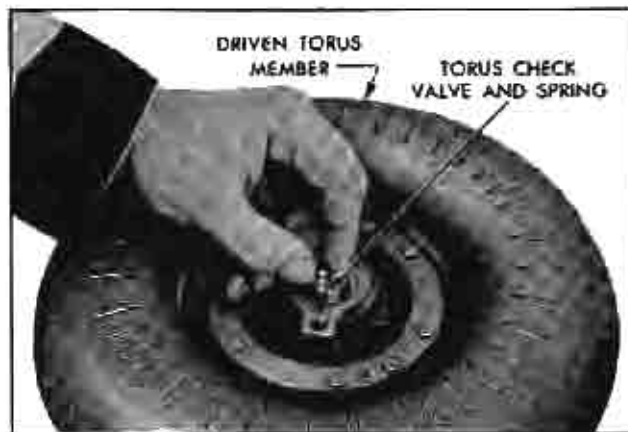

Fig. 145 Installing Torus Check Valve in Driven Torus
1. Install spring in torus check valve (Fig. 145).